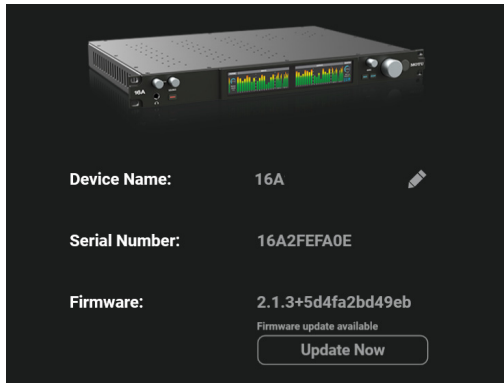

Figure 6-18: Go to the Device tab to see if there is a firmware update available.
- 2 Go to the *Device* tab and look at the *Firmware* setting (Figure 6-18).
- 3 If your computer has access to the internet, and there is a firmware update available, you'll see the *Update Now* button (Figure 6-18). Click it to update your firmware.